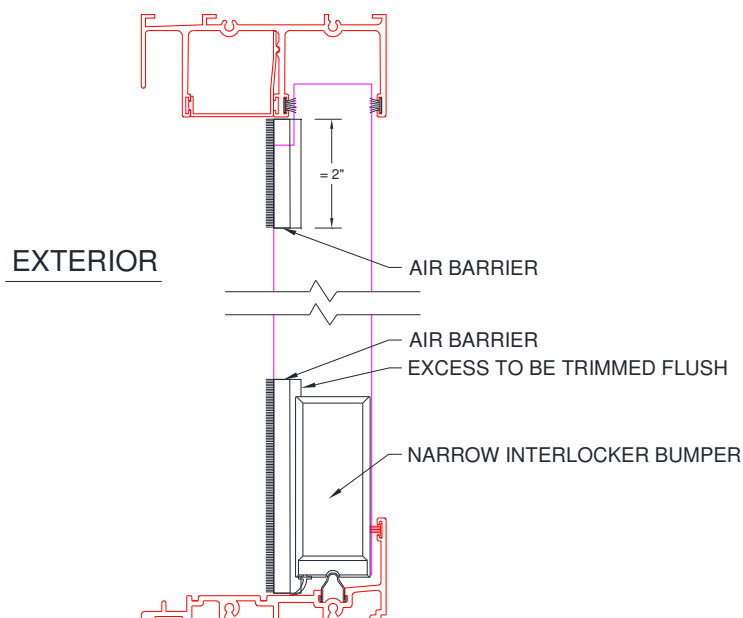

Figure B2:
4. Trim the measured amount from the bottom of the air barrier so the cut edge is concealed after installation (Figure B2).
6. The air barrier may also be cut to fit and installed at the top of the interlocker (Figure B2). Do not cut the air barrier to less than 2 inches in length, as the adhesive backing will not provide adequate adhesion if shortened beyond this length.